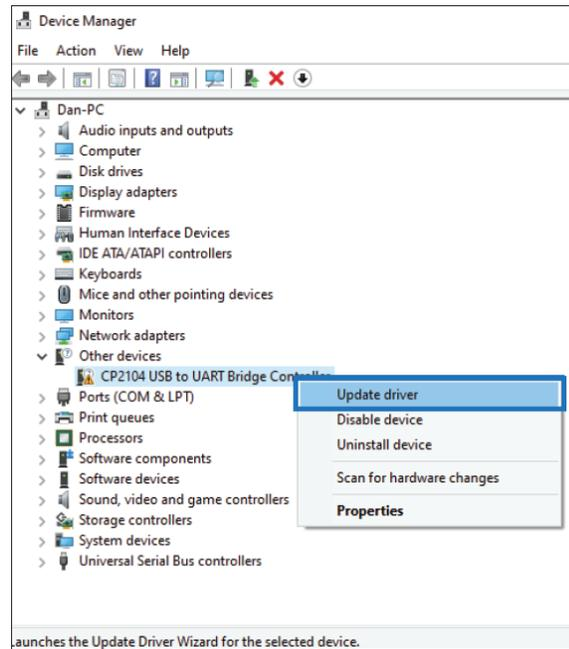

Figure 17
1. Right click on the “Unknown Device / CP2104 USB to...” and select “Update Driver” or “Update Driver Software”. (Figure 17)